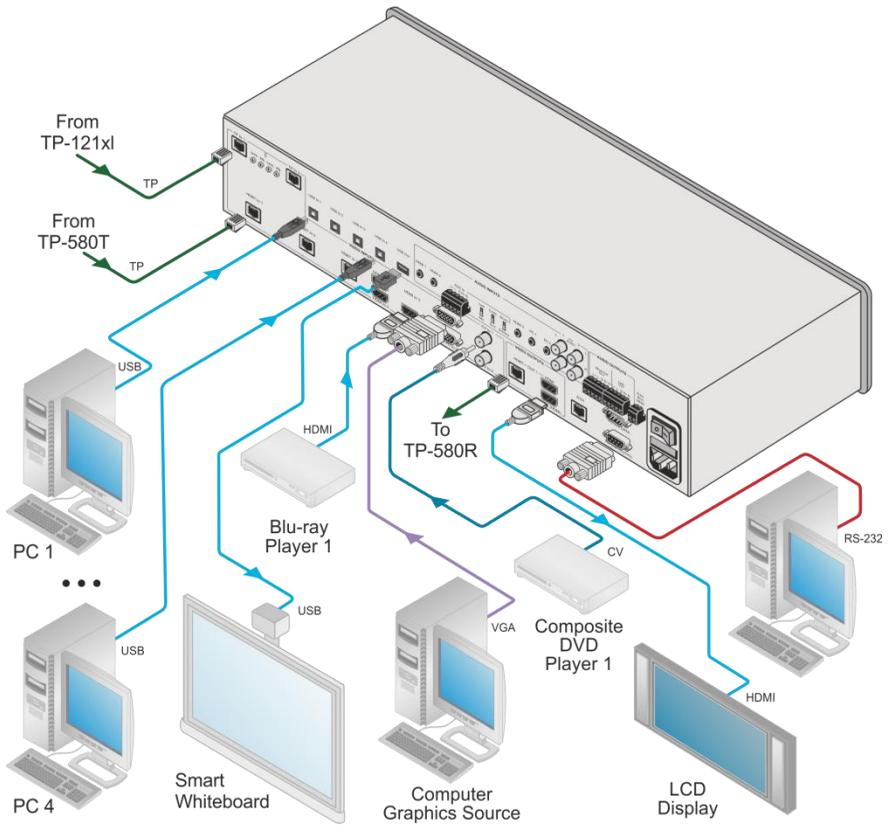

Figure 3: Connecting the VP-553xl Presentation Switcher / Scaler
To connect the **VP-553xl**, as illustrated in the example in Figure 3, do the following:
7. Connect the audio inputs (not shown in Figure 3) to the:
8. Connect an external audio source to the AUX IN 5-pin terminal block connector (not shown in Figure 3).